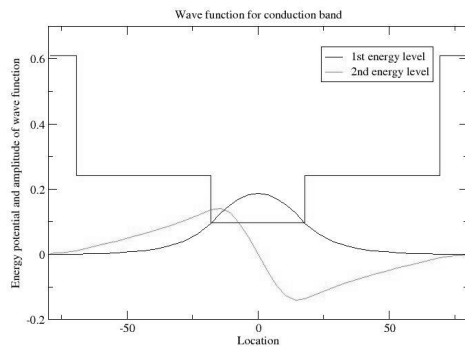
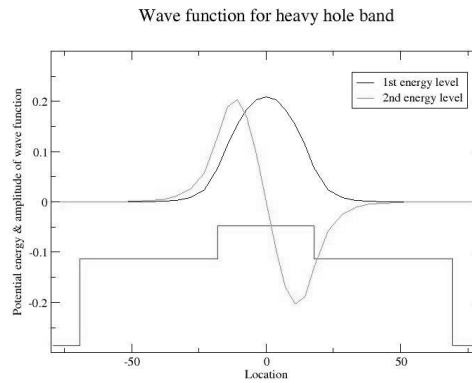

Fig. C.8.2. Wave envelop functions for energy levels in conduction band
Fig. C.8.3. Wave envelop functions for heavy hole energy levels
b) The main output file from this part of GAIN program is energy.dat, containing all the energy levels as shown in Table C.8.5. After the energy eigen values are calculated, the GAIN program asks the user whether he would like to check the wave envelope function or not. We suggest that the user check the wave envelope functions of the first and second energy levels for conduction and valence bands. The plots of the envelope functions are shown in Fig. C.8.2, Fig. C.8.3, Fig C.8.4.